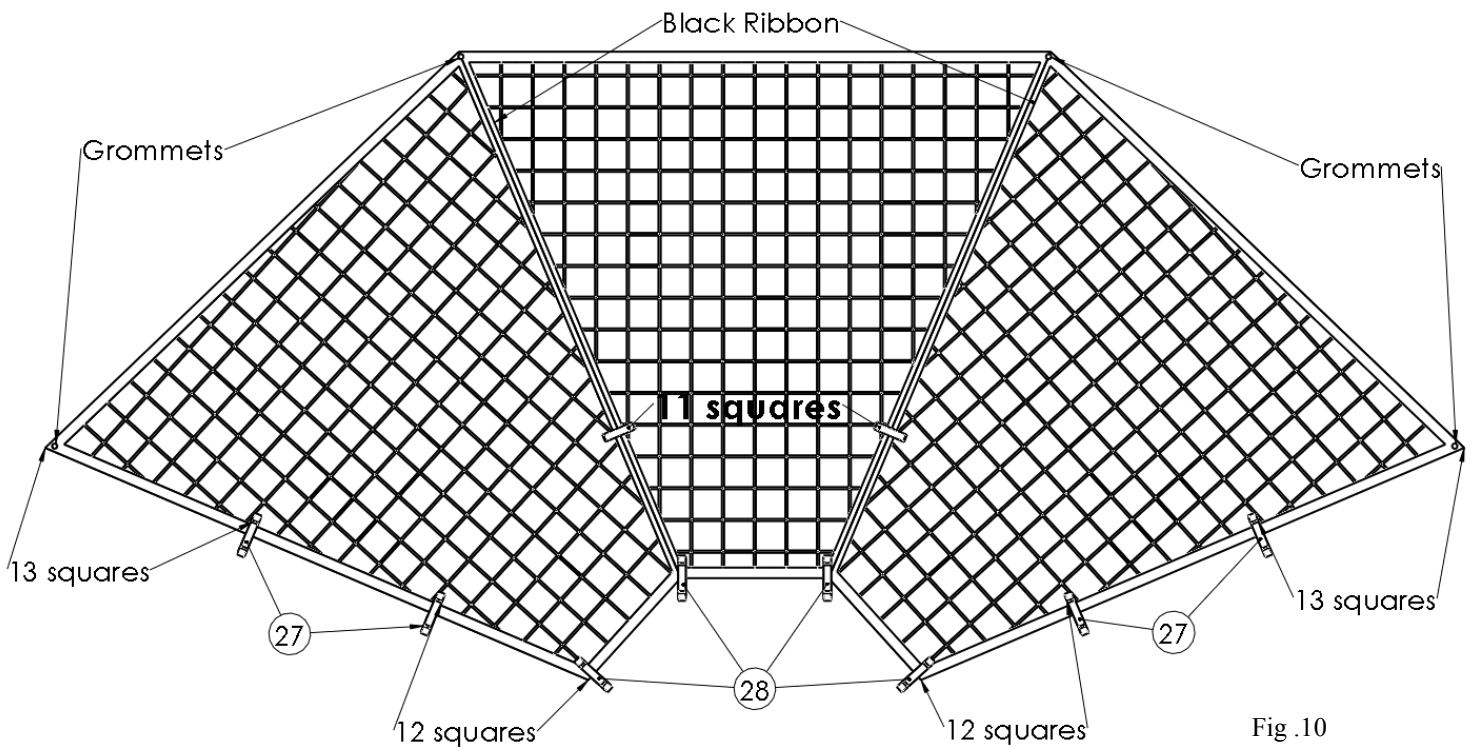

Fig .10
- A: Lay out net (3) on a flat surface with the black ribbon facing down.
- B: Loop Long Velcro (28) to the bottom four corners. See figure 10.
- C: Loop two of the short Velcro (27) 11 squares up from the bottom on the center net panel.
- D: Loop Short Velcro (27) 12 squares up from the bottom on the left and right side.
- E: Loop Short Velcro (27) 13 squares down from the top on the left and right side.